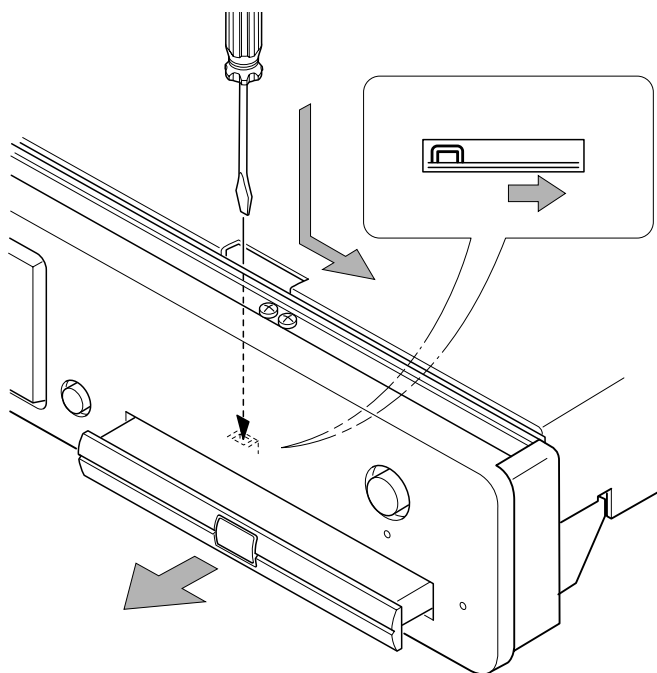

Fig. 1
REMARK : If the tray doesn't work, put a small screwdriver into the hole as shown in picture and slide the knob. Then the tray comes out. After the first centimeter it is possible to pull the tray out by hand. (see fig.1)
2. 本体を裏返し、細いドライバーでスライドノブを左側に押します。トレーが手前に出てきます。(fig.1 参照)